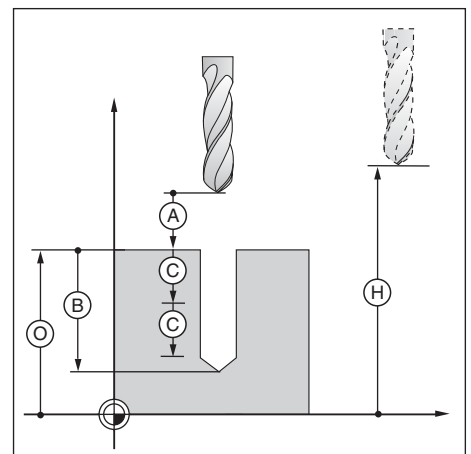

Fig. 7.1: Absolute and incremental input values for drilling cycles
Fig. 7.1 also illustrates setup clearance (A) and the infeed depth (C).